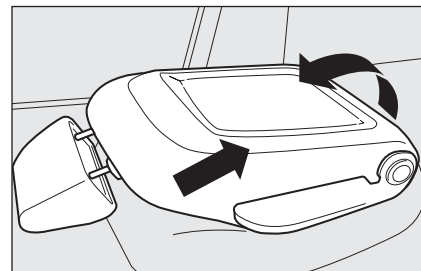

fig. 46
- ☐ push the rear seat forward as far as it will go **fig. 46**;